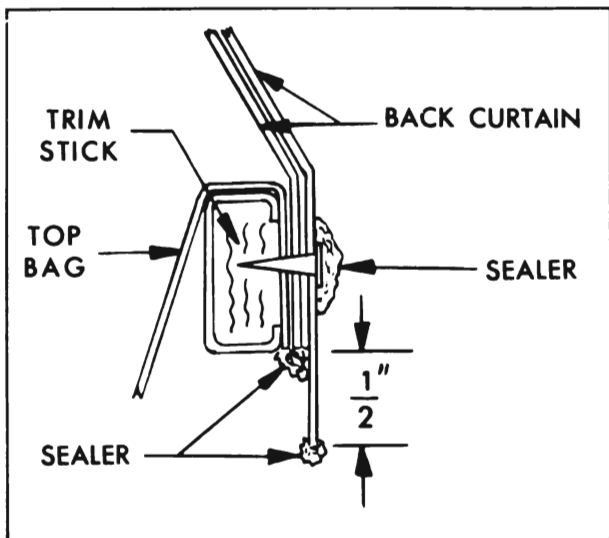

Figure 7-46—Sealing at Trim Stick
**NOTE:** New back curtain and top material should extend 1/2" below lower edge of trim sticks (see Figure 7-46).
40. Remove trim sticks with attached top material from top compartment well. Back curtain and top material should extend  $1/2''$  below trim sticks (see Figure 7-46). Trim material as required. Apply convertible top sealer onto all trimmed edges, around each tack head and around each trim stick attaching bolt hole (see Figure 7-46).